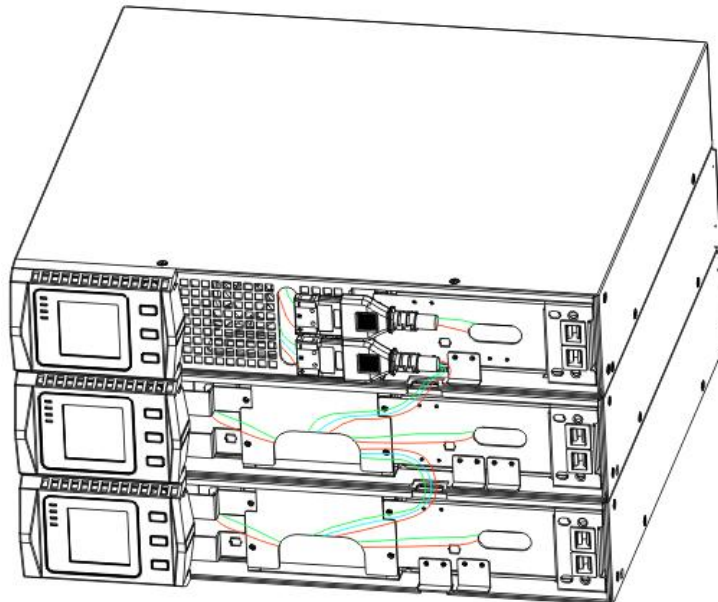

Figure12 Typical EBP Installation
3. For the bottom (or only) EBP, remove the EBP cable knockout on the top of the EBP front cover. See Figure 12 for the location of the top EBP cable knockout.
the top and bottom of the EBP front cover. See Figure 12 for the location of the EBP cable knockouts.
5. Plug the EBP cable(s) into the battery connector(s) as shown in Figure 12. Up to four EBPS may be connected to the UPS. Connect black to black. Press the connector tightly together to ensure a proper connection.